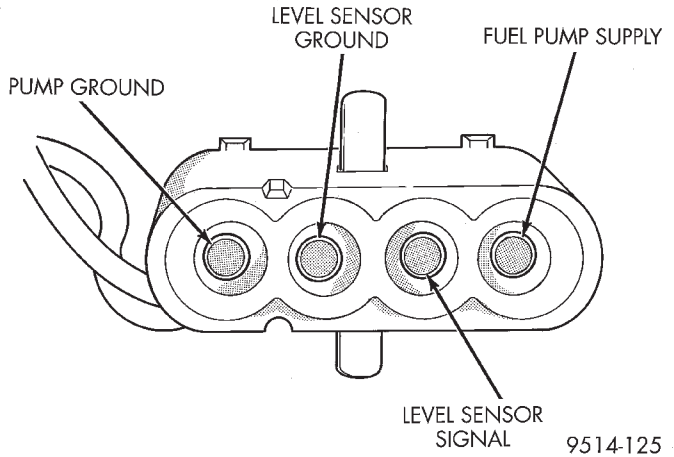

Fig. 26 Fuel/Pump/Level Sensor Electrical Connector
(4) Install level sensor wires in connector. Push the wires up through the connector and then pull them down until they lock in place. Ensure signal and ground wires are installed in the correct position (Fig. 26).
- (5) Install locking wedge on connector.
- (6) Push connector up into bottom of fuel pump module electrical connector.
- (7) Install fuel pump module. Refer to Fuel Pump Module in this section.